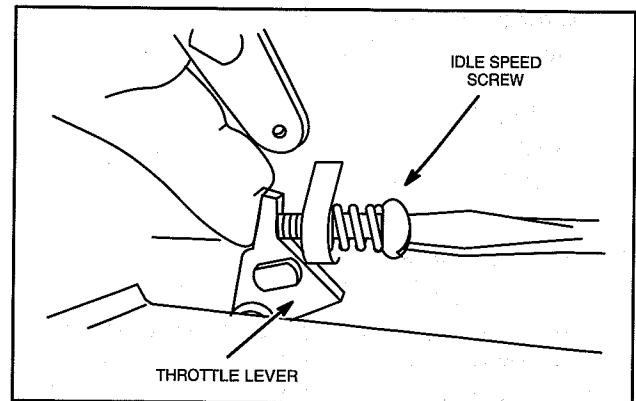

Fig. 132 – Adjust Idle Speed
2. Hold throttle lever against idle speed screw and temporarily adjust idle (Fig. 132) to RPM shown below.